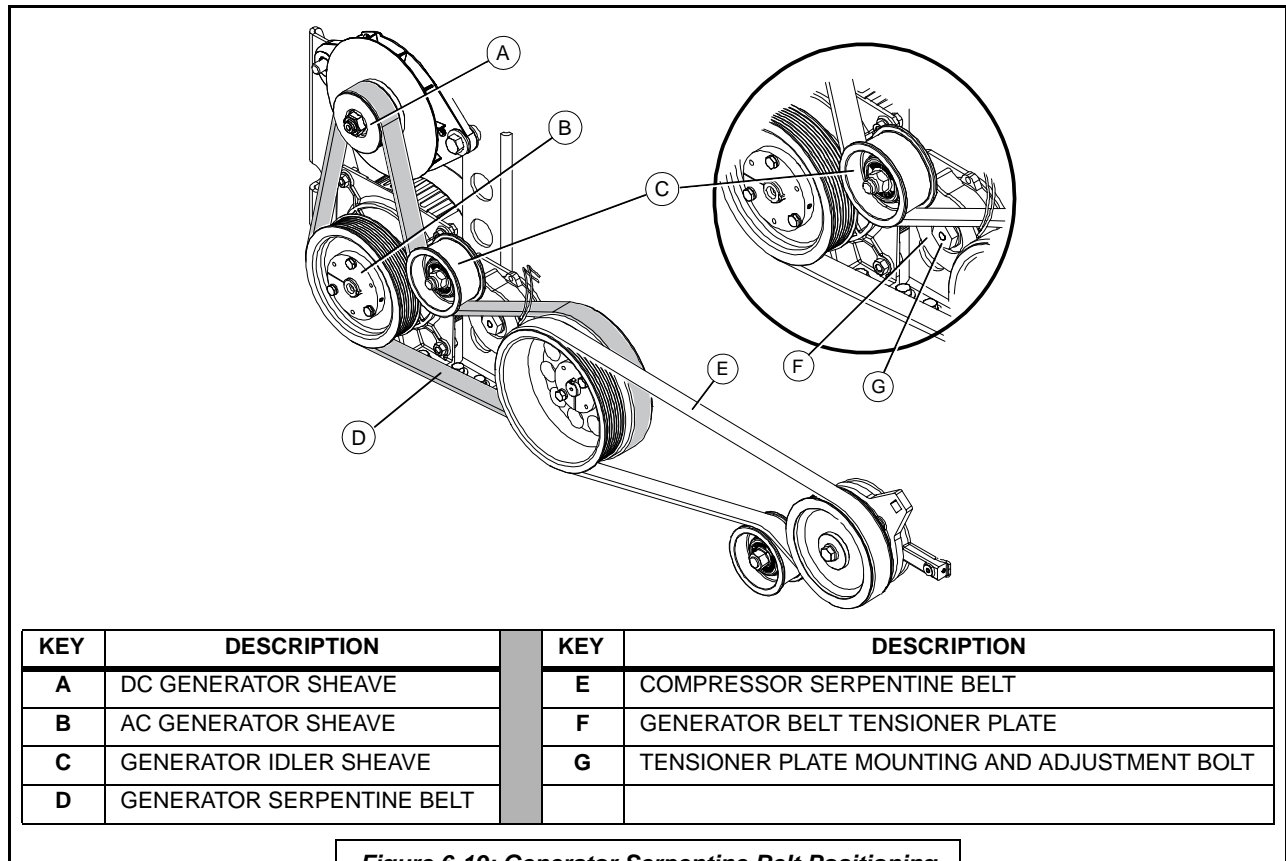

Figure 6-19: Generator Serpentine Belt Positioning
To replace the generator serpentine belt consult **Figures 6-19**, and the following procedure:
After removing the air compressor serpentine belt ([F] in **Figure 6-19**; refer to **Section 6.6.15.2** for compressor serpentine belt removal), The worn generator serpentine belt can now be replaced. Refer to **Figure 6-19** and the following steps:
3. Position and route the new generator serpentine belt as shown in **Figure 6-19**.